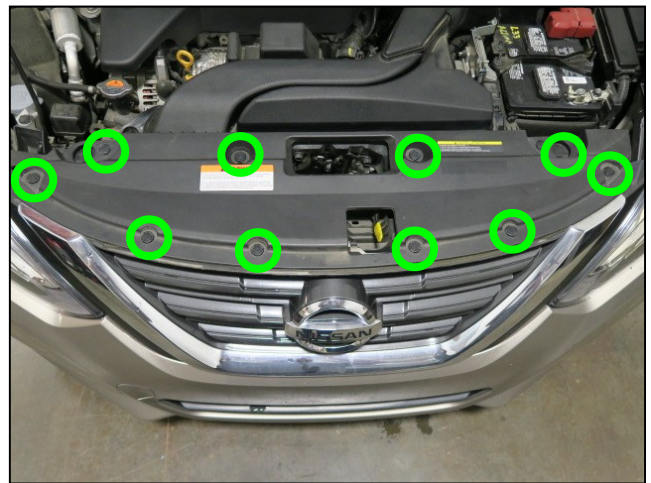

Figure 6
- Remove the 10 clips that secure the radiator core support upper cover (Figure 6).